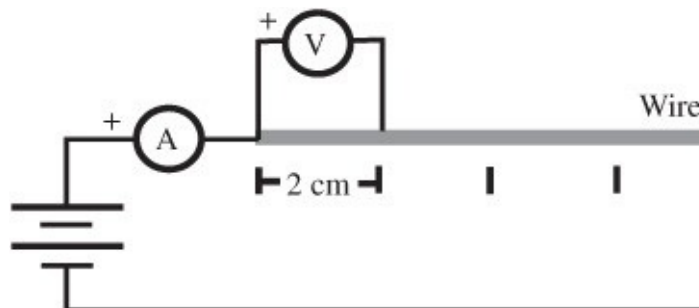

Figure 102-1 *Circuit for measuring resistivity.*
1. Set up the circuit as shown in Figure 102-1. Mark the wire with a Sharpie in 2 cm (or other convenient) lengths.